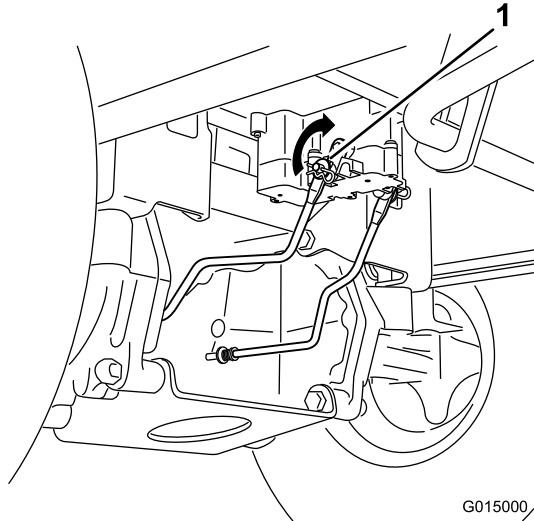

Figure 41
1. Locate the shaft on the electric brake where the brake-link arms are connected (Figure 41).